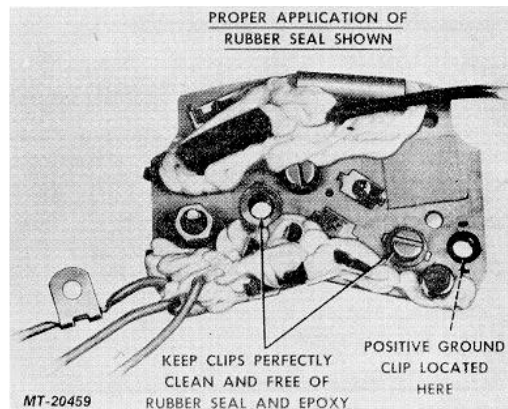

Fig. 15. Rubber Sealing Compound Applied to Regulator Components
- b. Using four (4) insulators, assemble heat sink, panel board and transistor TR1. Use silicone grease available commercially on both sides of mica insulator located between transistor and heat sink.
- c. Apply sealing compound around components as shown in Figure 15. (Use Dow Chemical RTV Silastic 732 or equivalent, available at hardware, paint and drug stores.) Keep metal clips perfectly clean and free of rubber seal.
7. Apply sealing compound around components as shown in Figure 15. (Use Dow Chemical RTV Silastic 732 silicone rubber seal or equivalent, available at hardware, drug and paint stores.) Keep metal clips perfectly clean and free of rubber seal.